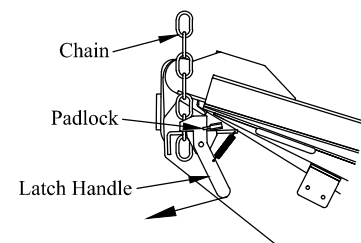

Figure 30: Steps 16 and 17.
16. **Latch** the liftgate by pulling on the latch lever, engaging the latch chain into the latch, and then releasing the latch lever (Figure 30).
17. **Always** install the padlock on the latch and deactivate the control when not in use (Figure 30).